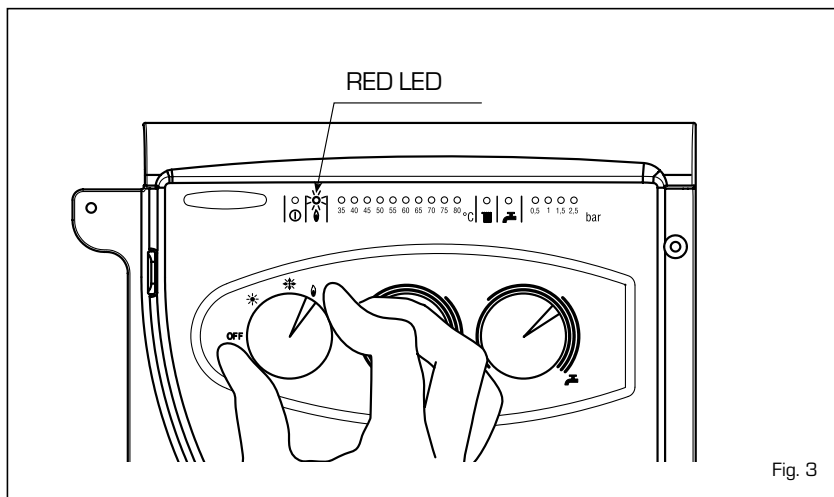

Fig. 3
- **Ignition failure** (fig. 3)